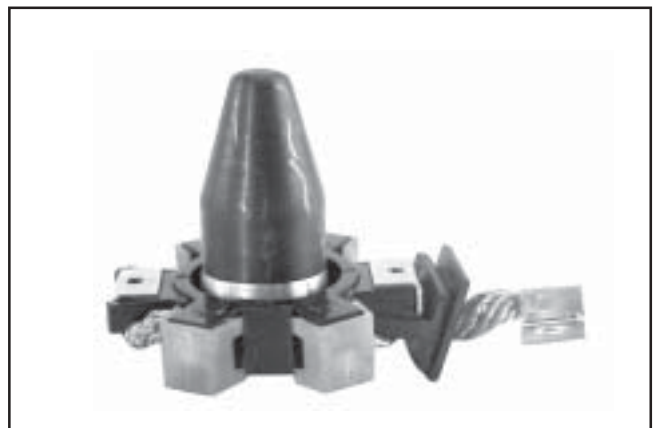

**Figure 8-67. Installing Brush Holder Assembly with Supplied Tube.**
- a. Hold the starter assembly vertically on the end housing, and carefully position the assembled brush holder assembly, with the supplied protective tube, against the end of the commutator/armature. The mounting screw holes in the metal clips must be “up/out.” Slide the brush holder assembly down into place around the commutator, and install the positive (+) brush lead grommet in the cutout of the frame. See Figure 8-67. The protective tube may be saved and used for future servicing.